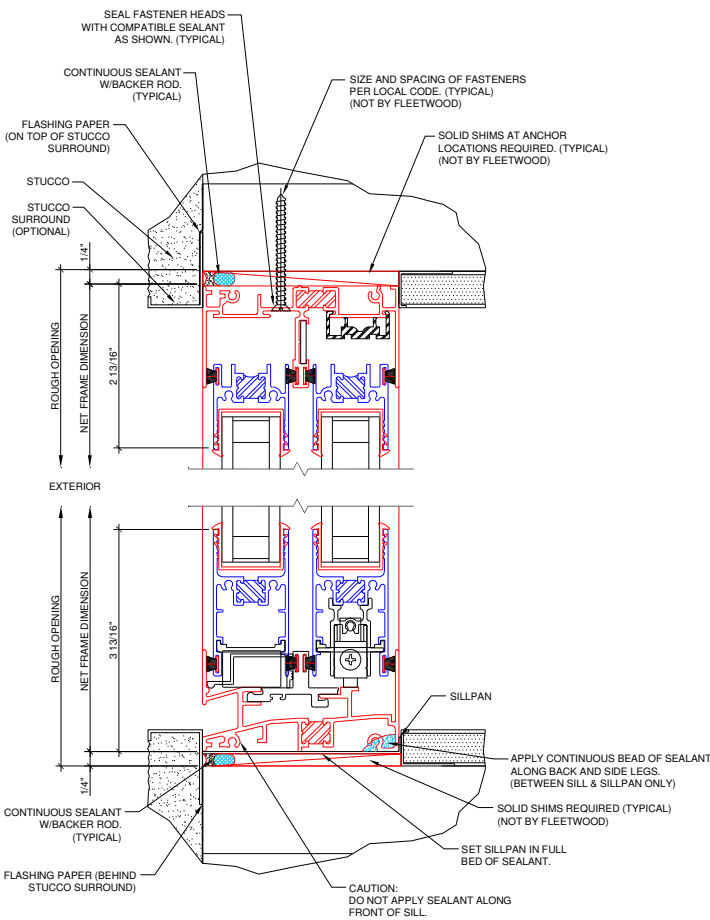

Figure 13:
3. Apply a continuous bead of sealant along the back and side legs (Figure 13,14) and insert the frame into the opening.